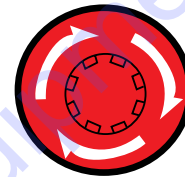

Figure 45. Emergency Stop Button
1. To stop the engine in the event of an emergency, push the **Emergency Stop Pushbutton Switch** (Figure 45).